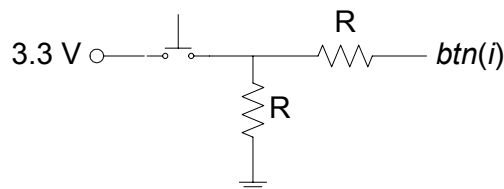

Figure 1.4 Pushbutton connection
- 1.1 The four pushbuttons on the BASYS and Nexys-2 boards are connected to pins on the FPGA using the circuit shown in Fig. 1.4. The value of *R* is 4.7 k Ω on the BASYS board and 10 k Ω on the Nexys-2 board. When the pushbutton is up the two resistors pull the input down to ground and the input *btn(i)* to the FPGA is read as a logic 0. When the pushbutton is pressed the input is pulled up to 3.3 V and the input *btn(i)* to the FPGA is read as a logic 1. Create a *.bde* file using Active-HDL that will connect the four pushbuttons to the rightmost four LEDs. Compile and implement the program. Download the *.bit* file to the FPGA board and test it by pressing the pushbuttons.